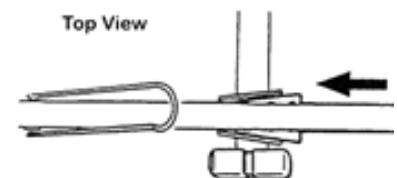

Figure 4
C. Place your right hand on top of the frame. Continue to grip the brake arm as needed to prevent cable backlash, and pull the winch assembly all the way toward you. (Figure 4)